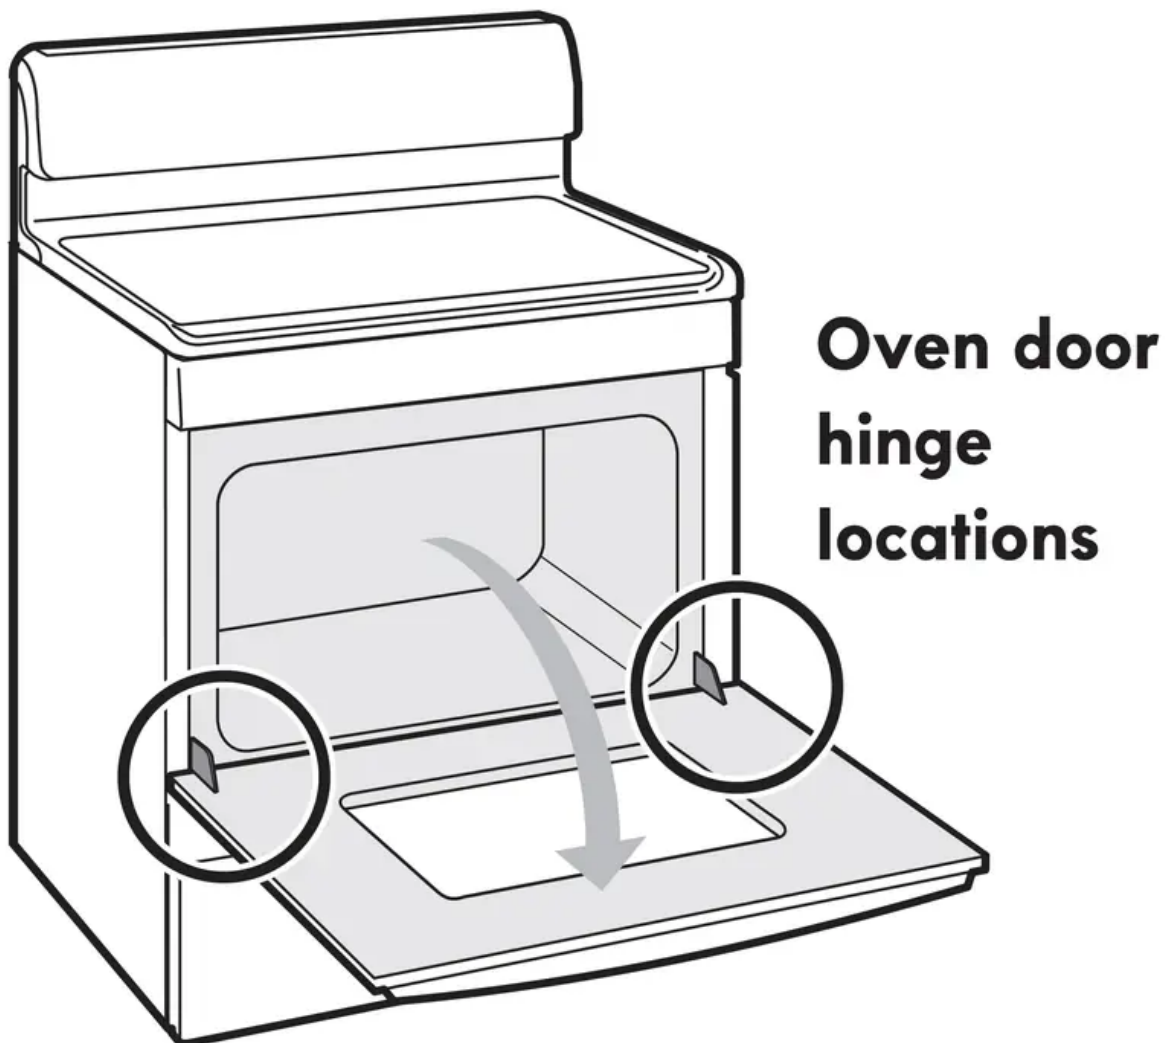

Figure 49: Oven hinge locations
1. Open oven door completely (horizontal with floor Figure 49).
3. Fully open the oven door (horizontal with floor - Figure 49).